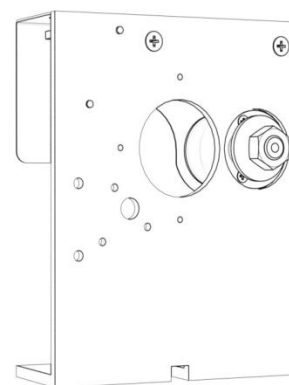

Fig.12
1. The component 1 (Figure 12) is the part of mechanical accessory, the one that makes the effect possible move.